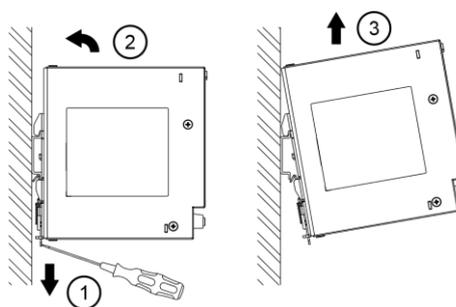

Fig. 7.2 Dismounting
5. To uninstall, pull or slide down the latch with screw driver as shown in Fig. 7.2. Then slide the power supply unit (PSU) in the opposite direction, release the latch and pull out the power supply unit (PSU) from the rail.